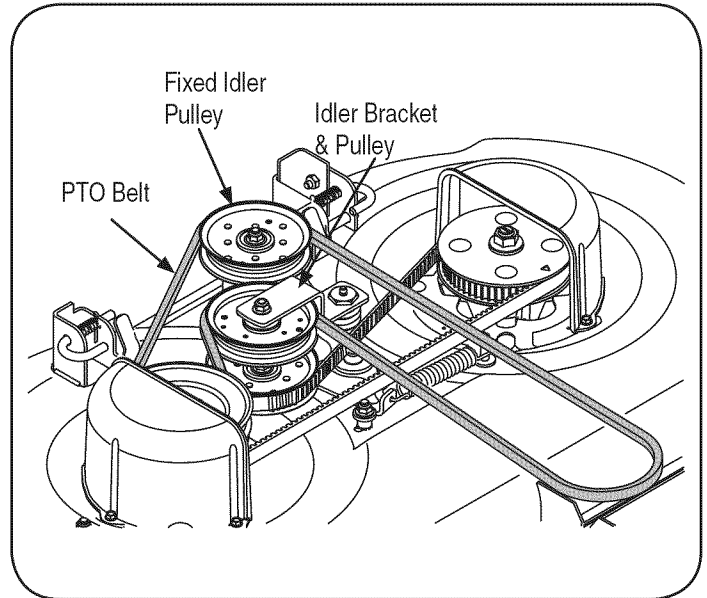

Figure 22
NOTE: It may be necessary to loosen the hex cap screw and flange lock nut securing the pulley to the idler bracket to fit the belt between the pulley and bracket. Slide the belt between the bottom of the idler pulley and top of the timing belt idler pulley below. See Figure 22.
- Loop the belt and push out of the V-groove of the drive pulley on the right hand spindle assembly. Lift the belt over the pulley and out from beneath the spindle cover. See Figure 22.
- Route the back side of the belt around idler pulley and between the idler pulley and idler bracket. Re-tighten the hex screw and flange lock nut if loosened earlier. Refer to Figure 22.
- Route the belt around the fixed idler pulley as shown in Figure 22 and re-install the deck as described in "Reinstalling the Cutting Deck" later in this section.